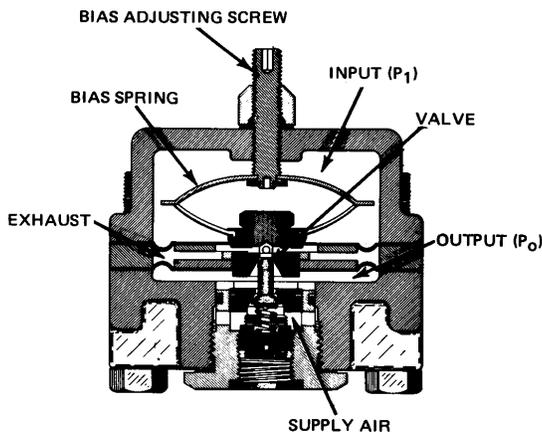
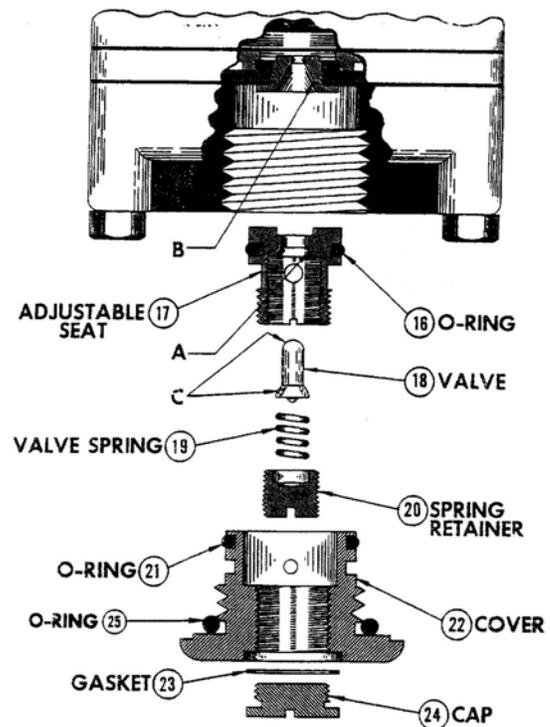

Figure 2
Figure 3
With normal supply pressure and input (signal) pressure applied, the Bias Adjusting Screw (Figure 2) may be turned clockwise to increase the output (control) pressure or counterclockwise to decrease output pressure.
The ratio of input to output pressure may be adjusted by adjusting Valve Seat (17) as follows (see Figure 3 except
1. With a supply pressure of 30 psig and an input pressure of 3 psig, turn Bias Adjusting Screw (Figure 2) until output pressure is 3 psig. Increase input pressure to 15 psig and check output pressure, which should be  $15 \pm 0.2$  psig.
2. If necessary, remove Cap (24) and adjust Valve Seat (17) until the correct output pressure is obtained.
3. Repeat steps 1 and 2 until the correct ratio is obtained. This unit may be adjusted while operating with Cap (24) removed, but the final setting must be checked after the Cap (24) has been replaced.
If the control pressure does not go below 0.5 psi with the Bias Spring (Figure 2) in the null position, or if the exhaust appears to be leaking (refer to Figure 3 except as noted) and follow the instructions below:
2. Inspect the Valve (18) surfaces for bumps, scars or other irregularities. The Hemispherical Surfaces (C in Figure 3) must be smooth and regular.
3. Inspect the Valve Seats (A and B in Figure 3) in the Base (15) and Exhaust Valve Plate (14). The surfaces must be clean and smooth with no scars or surface irregularities.
4. Inspect Diaphragms (6) and (13) for holes or worn spots which might permit air leakage.
5. Install the Valve (18), Valve Spring (19) and Spring Retainer (20) and make sure that the Valve Spring (19) is seating the Valve (18) properly.
**CAUTION:** If cleaning is required, do not subject the Diaphragms (6) and (13) to cleaning fluids or solvents.